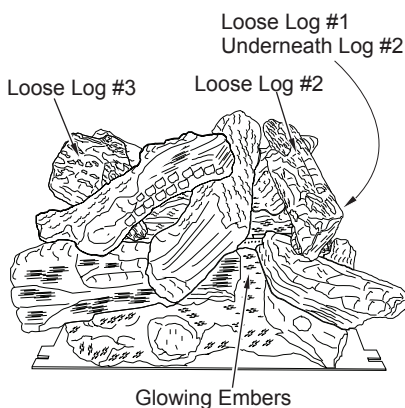

Figure 28 - Installing Loose Logs
2. **For 36" models only:** Install 3 loose logs by placing log #1, log #2 and log #3 onto one piece log as shown in Figures 28, 28a and 28b.
5. **For 36" models only:** Remove 3 loose logs from log set (see Figures 28, 28a, and 28b, page 21).